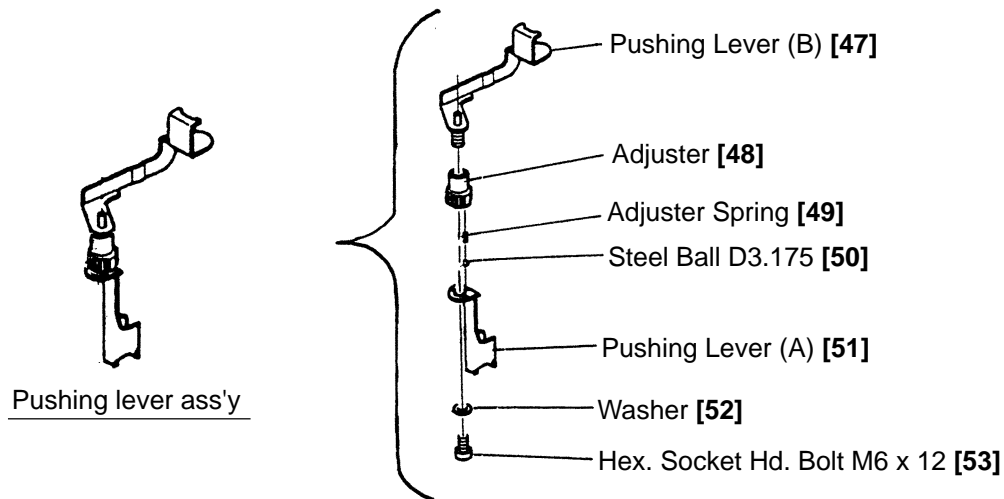
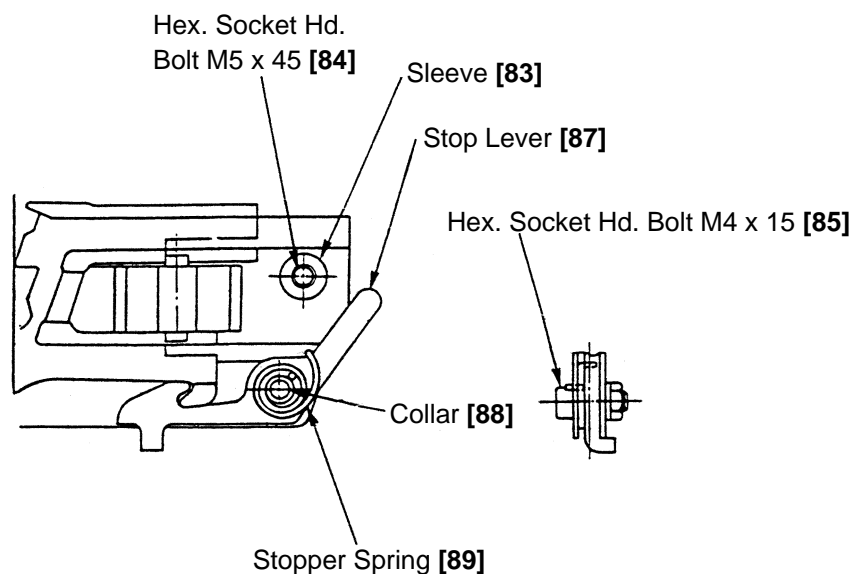

Fig. 14
Fig. 21
- Pull out the Roll Pin D3 x 45 [45] and remove the Guard (B) [44].
- Pressing the Nail Feeder [75] against the Nose [32], remove the Nylock Bolt (W/Flange) M8 x 16 [35] and the High Tension Bolt M6 x 18 [29] from Guard (A) [31] side (then Guard (A) [31] and the Spring Washer [30] can be removed together).
- Remove the four Nylock Hex. Socket Hd. Bolts M8 x 22 [33]. Then Piston Bumper (B) [27] and Gasket (A) [28] can be removed together with the Nose [32] and pushing lever ass'y (Fig. 14).
- Remove the Nose [32] and the pushing lever ass'y from the main body according to 10-2-(3) (Fig. 14).
- Pull out the Roll Pin D3 x 18 [34] and remove the Hex. Socket Hd. Bolt M6 x 12 [53] to remove Pushing Lever (A) [51], Pushing Lever (B) [47], Adjuster [48] and other parts.
- Mount the Stop Lever [87] and the related parts as shown in Fig. 21. When mounting the Stopper Spring [89], hook an end of the Stopper Spring [89] on the Stop Lever [87] and insert the other end into the small hole of the Magazine [82].
- Be sure to check the following items after reassembly. Pay special attention to the items (2) and (4) about the single actuation (single sequential actuation) mechanism that is not provided to the Model NR 83A but the Model NR 83A2. Before checking the following items except (5), check that no nail is loaded in the Magazine [82] and the Nose [32].
- (1) Check that the pushing lever ass'y (Fig. 14), Trigger [59], Trigger Plunger [66], Plunger (A) [56], Plunger (B) [74], Valve Sleeve (A) [69] and Adjuster [48] operate smoothly without connecting to an air compressor. Then check that the Nail Feeder [75] moves smoothly in the Magazine [82].
- (2) Connect the Model NR 83A2 to an air compressor and set Valve Sleeve (A) [69] to "single actuation (single sequential actuation)" (see 5-2). Check the following when the pressure is 4.5 kgf/cm (63 psi) and 8.5 kgf/cm (120 psi).
- (3) Set Valve Sleeve (A) [69] to "contact actuation" (see 5-2). Check the following when the pressure is 8.5 kgf/cm (120 psi).
- ① Check that the Model NR 83A2 does not operate just by pulling the Trigger [59].
- ② Check that the Model NR 83A2 does not operate just by pressing the pushing lever ass'y against a test piece (wood etc.).
- ③ Check that the Model NR 83A2 operates by pulling the Trigger [59] first then pressing the pushing lever ass'y against a test piece. (At this time, pull the Nail Feeder [75] backward and hook it on the Stop Lever [87] (see Fig. 21).)
- (4) Set Valve Sleeve (A) [69] to "single actuation (single sequential actuation)". Check the following when the pressure is 8.5 kgf/cm (120 psi).
- ① Check that the Model NR 83A2 does not operate just by pulling the Trigger [59] (i.e., check that the Piston [12] does not come out of the Nose [32] tip (outlet of nails) when keeping the Trigger [59] pulled for five seconds or more).
- ② Check that the Model NR 83A2 does not operate just by pressing the pushing lever ass'y against a test piece.
- ③ Check that the Model NR 83A2 operates by pressing the pushing lever ass'y against a test piece first then pulling the Trigger [59]. Check that the Piston [12] is still showing from the Nose [32] tip (outlet of nails) after the pushing lever ass'y is released from the test piece with the Trigger [59] pulled.
- (5) Set Valve Sleeve (A) [69] to "contact actuation". Set the pressure to 4.5 kgf/cm (63 psi) and load nails in the Magazine [82]. Perform nailing operation and check that nails are properly driven (no idling and bent nails).
- (6) Recheck the tightening torque of each screw without connecting to an air compressor.